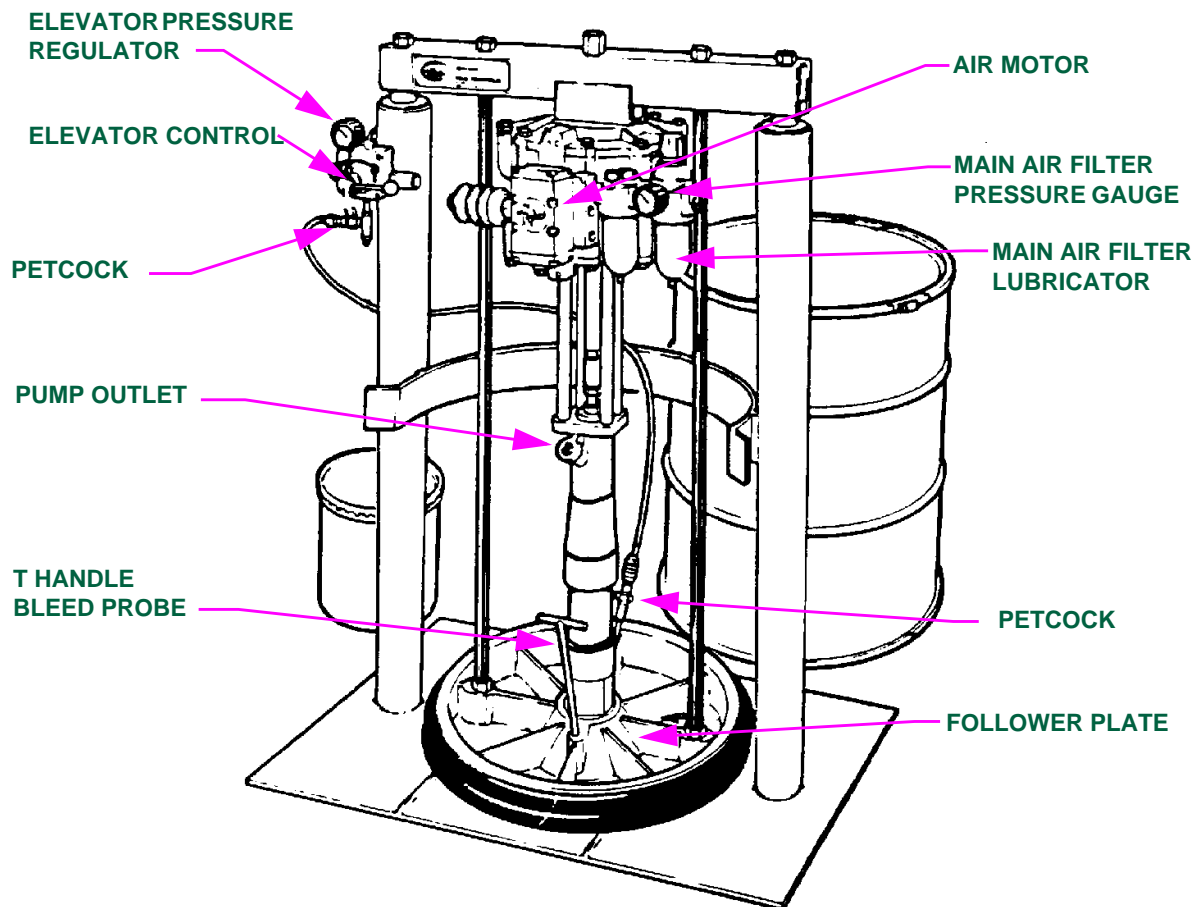

FIGURE 4 - BASE PUMP AND ELEVATOR ASSEMBLY
- 5.9.1 Change base and accelerator component containers as follows (see Figure 4):